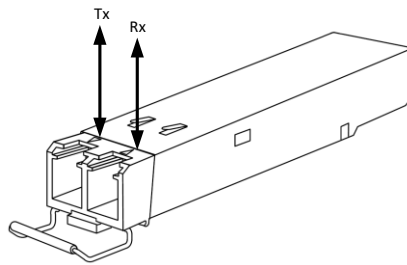

Figure 10: SFP+ Module with TX output and RX input marked
- d. On Fiber channel 0 both the TX and RX fiber cables must be connected. On channels 1 through 3 only one fiber cable should be connected. This cable is connected between TX output (Marked with TX or Arrow outwards the SFP+) on the *KY-FEXT-D* unit and RX input (Marked with RX or Arrow inwards the SFP+) on the *Komodo Fiber Frame Grabber*, as shown in Figure 10.